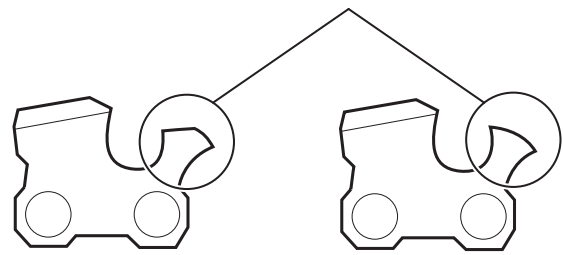

Fig. 35
- After lowering the depth gauge, use the flat file to restore the original rounded shape to the depth gauge (Fig. 35). Take care not to damage the cutting edges or nearby links.